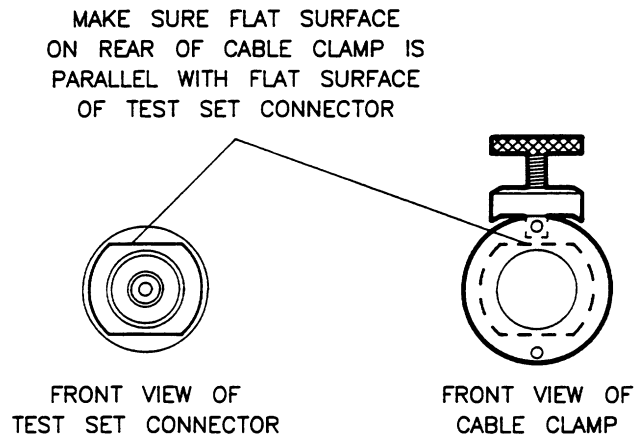

Figure 3-7 *Visually Aligning Clamp and Nut Flats*
2. Turn the clamp so that the thumbscrew is pointing up. From there, turn the clamp to visually align the clamp flats with the flats on the test port connector nut. This will minimize rotating the connector in the next step. Refer to Figure 3-7.